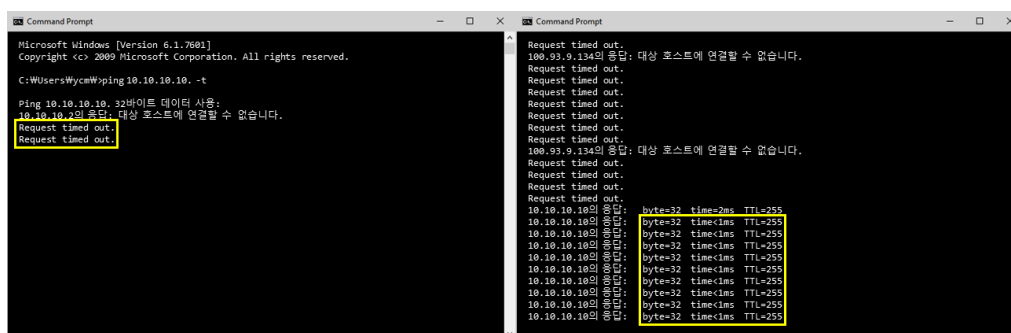

Figure 18. Communication is connected successfully
3. When 'Request timed out' message appears as shown in Figure 18, turn on the pump and check if the communication is connected.